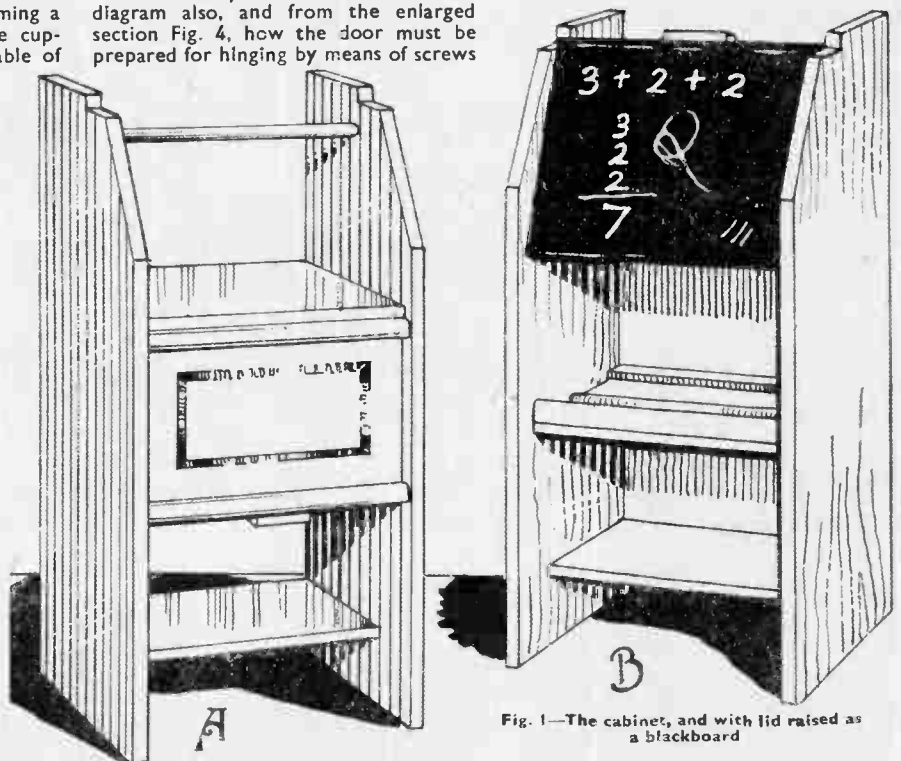

Fig. 1—The cabinet, and with lid raised as a blackboard
**H**ERE is just the thing for the tiny tots, a toy cupboard and shelf for books and a blackboard all combined. In Fig. 1 we give two views of the cupboard, one with the cupboard closed at (A), and the one, (B), with the door of the cupboard turned up and forming a most convenient blackboard. The cupboard is quite spacious and capable of holding quite a lot of toys.